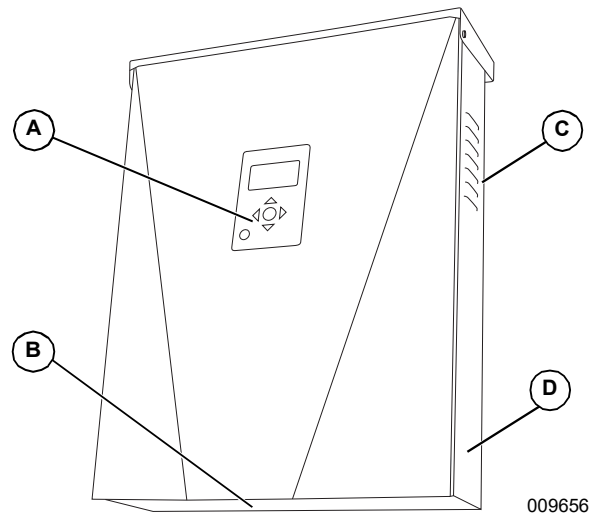

Figure 2-2. Component Locations
Refer to **Figure 2-2** to locate unit serial number (A). Record the information from this tag in **Table 1: PWRcell Inverter Important Information** on the inside front cover of this manual.